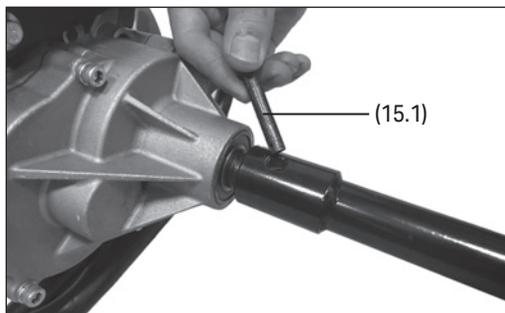
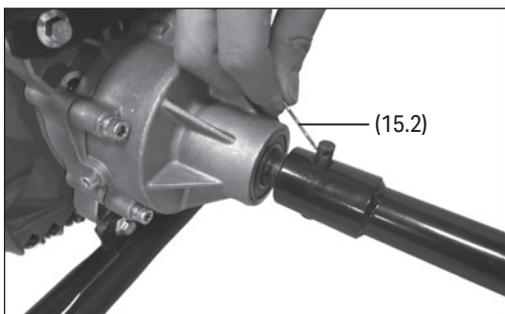

Fig.1
Fig.2
6.1 Fitting an Auger Bit (Fig.1 – Fig.2)